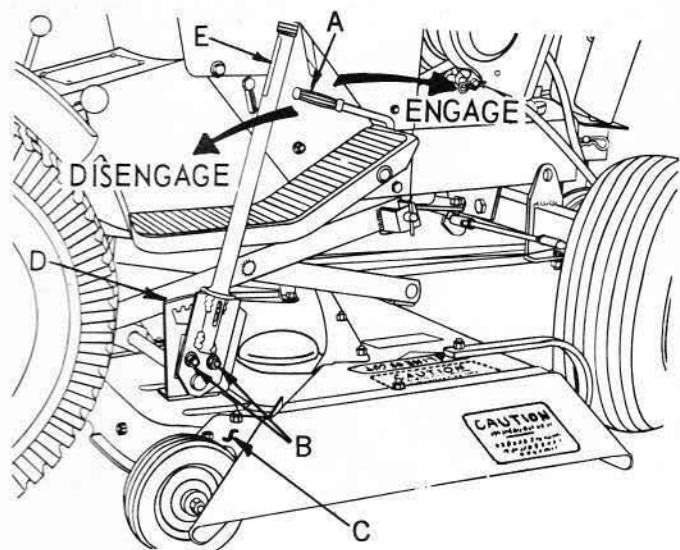
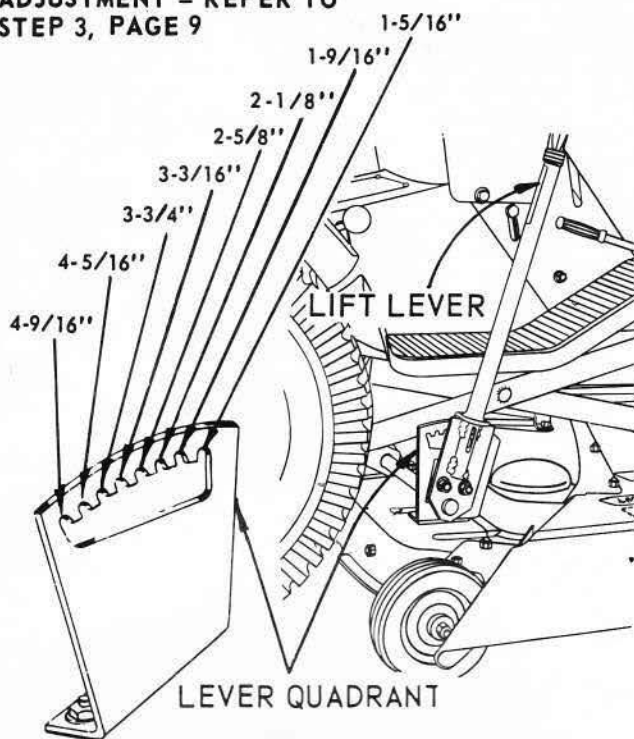

FIG. 19
FIG. 20
1. Set engine speed to about $\frac{1}{3}$ to $\frac{1}{2}$ throttle before engaging or disengaging mower. In either case, engage or disengage mower belt tightener lever (A), slowly. After mower is engaged, set to full throttle. **CAUTION:** Never engage mower except when sitting on tractor seat.
2. Start mowing in a low range and increase ground speed as conditions will permit. Average cutting height is approximately $2\frac{1}{2}$ to $2\frac{3}{4}$ inches. Height of cut can be adjusted by means of the lift lever (E). Moving the lever forward lowers the mower. Moving it backwards raises the mower. The lever latch is actuated by depressing the latch button at the top of the lever handle. Each notch changes the height of cut approximately $\frac{1}{2}$ inch, refer to Fig. 20, page 10.
3. Should some intermediate height be desired. Loosen the two nuts (B), at the bottom of the lift lever. Rotate the lever forward or backward relative to the lift shaft. Forward movement will raise the height of cut. Rearward movement will lower the height of cut. This adjustment will raise or lower the cutting range approximately $\frac{1}{2}$ inch the equivalent of one-half notch on the lift lever quadrant (D). Retighten nuts (B), securely.
4. There are four holes in the R.H. and L.H. gauge wheel supports (C, Fig. 19). With lift lever set to give desired height of cut and with tractor and mower on level ground. Adjust gauge wheels to one of the holes in gauge wheel supports so that they clear the ground by approximately $\frac{3}{4}$ inch.